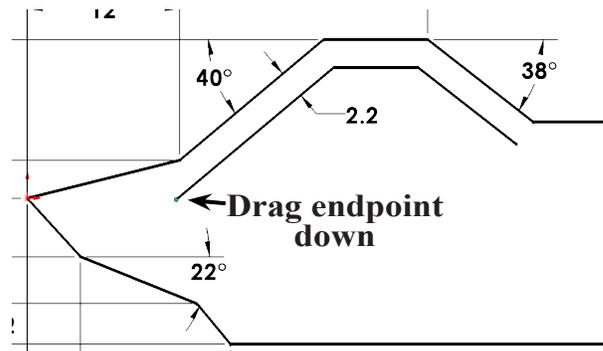

Fig. 6
Step 9. **Drag bottom endpoint of windshield offset line down**, Fig. 6.